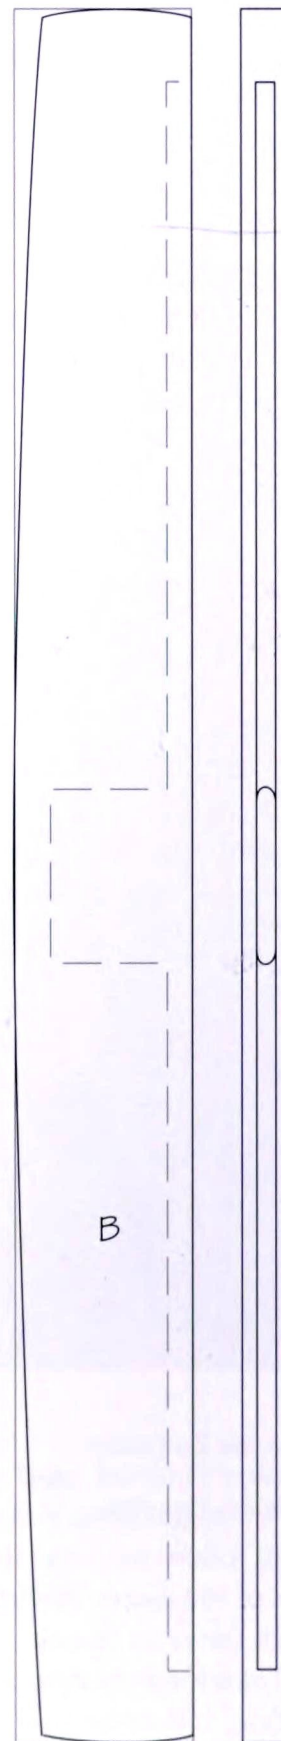

Figure 1
1. Flatten, thickness, joint, and glue up enough $\frac{1}{4}$ greenheart for a top panel (A), $\frac{5}{8}$ " thick, 29" wide, and 50 $\frac{1}{2}$ " long. (See Flattening, Thicknessing, and Jointing on page 8 for helpful tips.) When the glue dries, trim the panel to those dimensions. Remove excess glue and sand the top panel smooth and flat to 220 grit.
2. Prepare two pieces of pernambuco for the cleats (B), $\frac{1}{8}$ " thick and $2\frac{1}{2}$ " wide. Make sure that one edge of each piece is smoothly concave lengthwise, about $\frac{1}{8}$ " in 31 ". Cut the cleats to $30\frac{1}{2}$ " long.
3. On each end of the top panel (A) and on each concave edge of the cleats (B), cut a mortise $\frac{3}{8}$ " thick, 3 " wide, and $2\frac{1}{2}$ " deep, centered both thicknesswise and lengthwise. You may leave the ends of the mortise round.
4. On both sides of each of those mortises, and aligned with the mortises, cut a $\frac{3}{8}$ " by $\frac{3}{8}$ " slot outwards from the mortise $12\frac{1}{2}$ ". The slots stop $\frac{1}{2}$ " from the edges of the top panel (A) and $1\frac{1}{4}$ " from the ends of the cleats (B). See figure 1. This time, square the ends of the slots with a mortise chisel.
8. Assemble all the pieces you've prepared so far for a test-fit of the top. You should be able to close the joints between the top panel (A) and the cleats (B) using one double pipe clamp or two single pipe clamps on opposite sides of the top assembly. If the joints don't close, figure out why and fix it. Then remove the clamps and the two cleats.
9. The ends and the outside edges of the cleats (B) are rounded, as in figure 1. Saw the long curve on the outside edge first. At each end of one cleat, mark $\frac{1}{2}$ " from the outside edge, and mark the center, lengthwise, of the outside edge. If you have a helper, bend a batten so that your assistant can draw a fair curve which hits all three points. (Refer to Fair Curves and Patterns on page 12 for help.) You cannot accomplish this by yourself unless you are tridextrous or a very skilled oral draftsman. Be sure to overbend the batten at the ends to arrive at a fair curve.
11. The curves at the ends of the cleats are $\frac{1}{8}$ " deep, as shown in figure 1. You can sketch these freehand or find an appropriate circular object to trace. Band saw to the lines, or simply remove the waste with a rasp. Then file and sand the ends smooth, keeping the ends perpendicular to the top face.
12. Sand the cleats (B) to 220 grit on all surfaces except the inside edge. Touch up the top panel (A) if necessary.
13. Using a low angle block plane, chamfer the long edges of the top panel (A) $\frac{1}{16}$ " or $\frac{3}{32}$ ". Chamfer all the top and bottom edges of the cleats (B) by the same amount. Do a good clean job, and don't try to sand the chamfers. You have one shot to get this right, so practice first if you suspect you might need it.